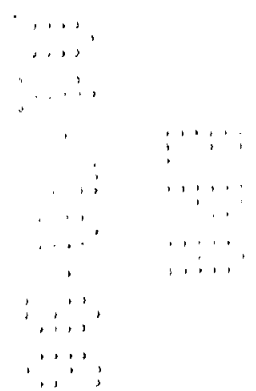

Figure 1.
To determine the Mass Median Diameter (MMD), the accumulative percentages from the last column in Table 1 are plotted against the eyepiece division (D) on arithmetic probability paper as in Figure 1. Directly across from the 50 percent point on the line is the median droplet size in eyepiece divisions times the conversion factor of 1.75 equals a Mass Median Diameter of 16.1 microns.